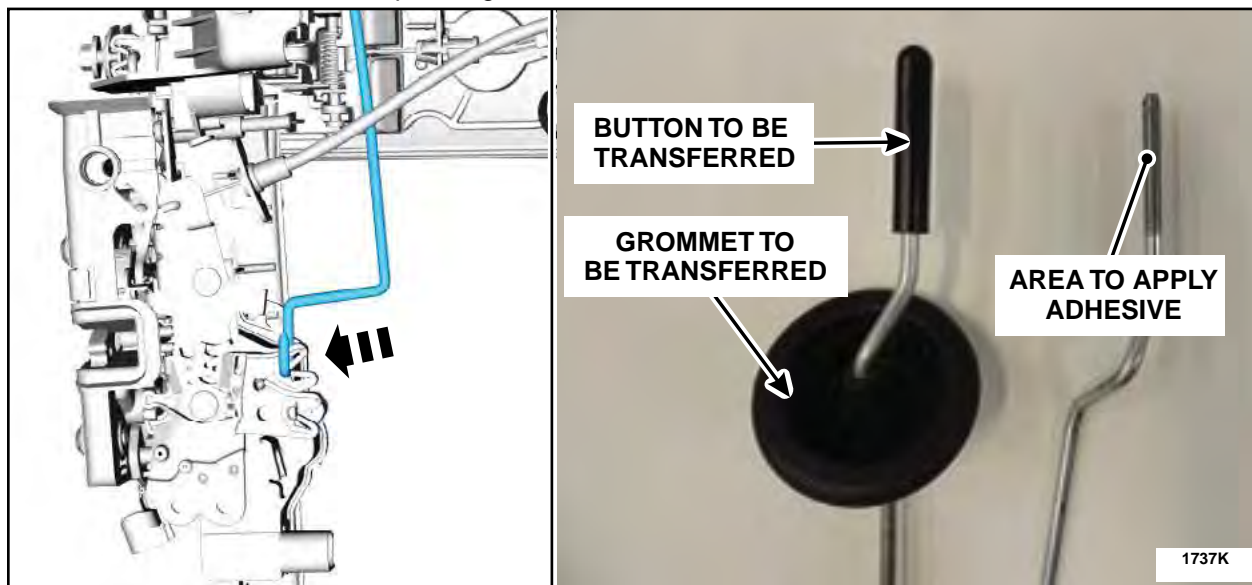

FIGURE 11
17. Replace the lock rod and transfer the necessary components. See Figure 11.